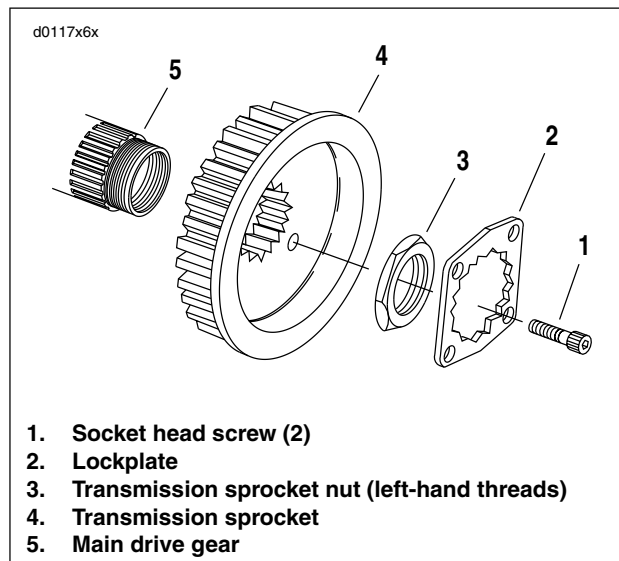

Figure 6-97. Transmission Sprocket
8. See Figure 6-97. Place transmission in first gear. Remove two socket head screws (1) and lockplate (2).
1. See Figure 6-97. Install transmission sprocket (4) with secondary drive belt onto main drive gear (5).
3. Apply a few drops of LOCTITE 262 (red) to the **left-hand threads** of transmission sprocket nut (3) and lightly coat the washer-faced side with clean H-D 20W50 engine oil. Wipe off any excess oil.
9. See Figure 6-97. Install lockplate over nut so that two of lockplate's four drilled holes (diagonally opposite) align with sprocket's two tapped holes.
10. See Figure 6-97. Install two socket head screws through aligned holes of lockplate and into tapped holes of sprocket. Tighten to 90-110 **in-lbs** (10.2-12.4 Nm).